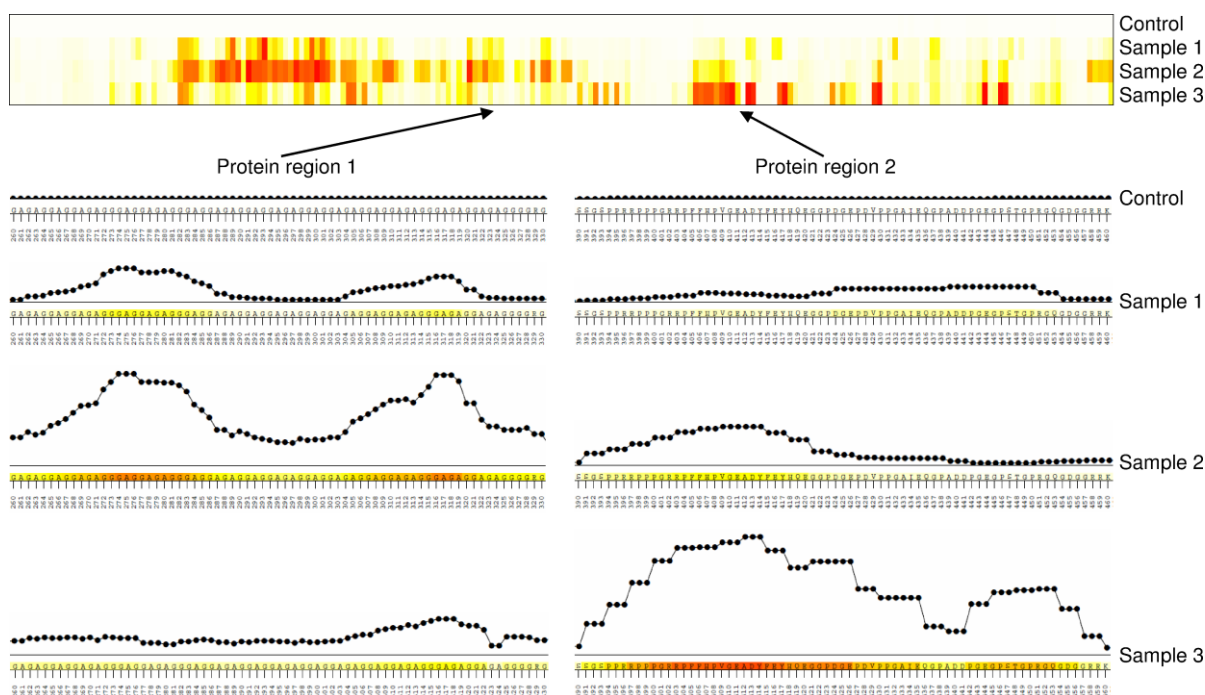

Figure 8: Microarray incubation using microarray-chip-sandwich.
4. Create heatmap or bar-plot diagram for visualization and identification of major binding sites (examples see Figure 8).